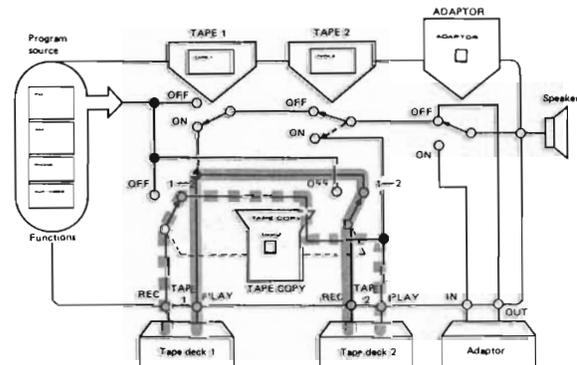

Fig. 10
Duplicating and editing recorded tapes (Fig. 10)
1. As shown in Fig. 10 connect the tape decks to the receiver's TAPE 1 and TAPE 2 jacks.